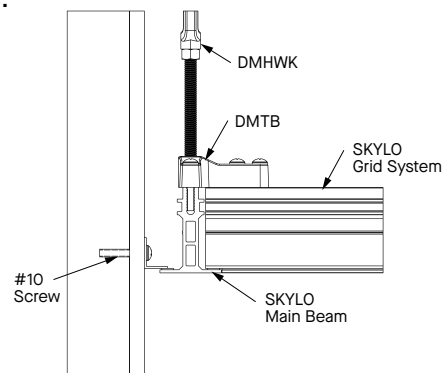

Fig 3
- 2.1** Install threaded rods along the wall at the ceiling perimeter. The Skylo Main Beam is used as the ceiling perimeter member, running parallel to the wall. The main beam is suspended from the threaded rods using T-brackets. Maintain a minimum clearance of 1" between the wall and the perimeter main beam to allow for proper turnbuckle adjustment (**Fig 3**). Use wall molding to create a seal with the perimeter main beam flange. Fasten the perimeter wall molding with an appropriate fastener suitable for the wall substrate.